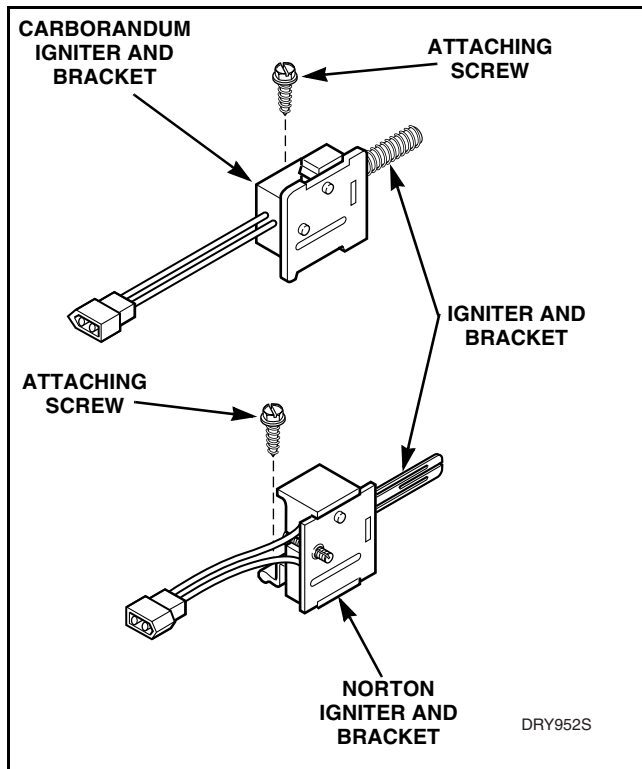

Figure 15
Refer to *Figure 15*
1. Remove disconnect blocks from gas valve coils. Refer to *Figure 15*.
1. Remove valve wire harness disconnect block from the holding and booster coil. Refer to *Figure 15*.
3. Set test meter to read AC voltage and apply meter probes into terminals on the dryer harness that would correspond to terminals “1” and “2” on the coil. Refer to *Figure 15*. Meter should register line voltage in all Fabric settings, except FLUFF which should read “zero” VAC.